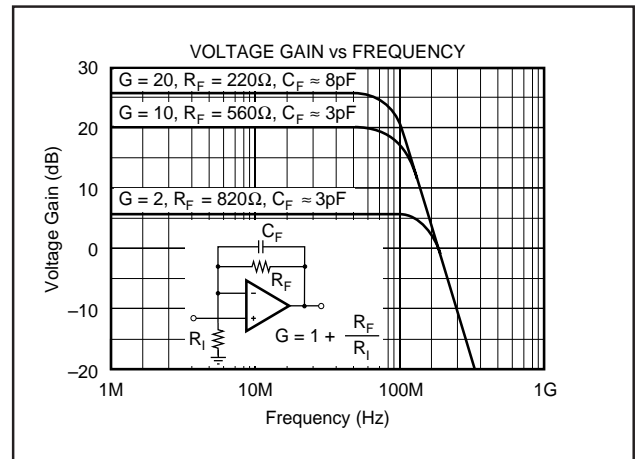

FIGURE 5. Bandwidth Results with Added Capacitor  $C_F$ .
NOTES: (1) One power supply fixed at 5V; the other supply varied from 4V to 6V. (2) Observe power derating curve. (3) See bandwidth versus gain curves, Figure 5.
$C_F$  will range from 1pF to 10pF depending on the selected gain, load, and circuit layout. Adjust  $C_F$  to optimize bandwidth and minimize peaking. Figure 5 shows bandwidth which can be achieved using this technique.